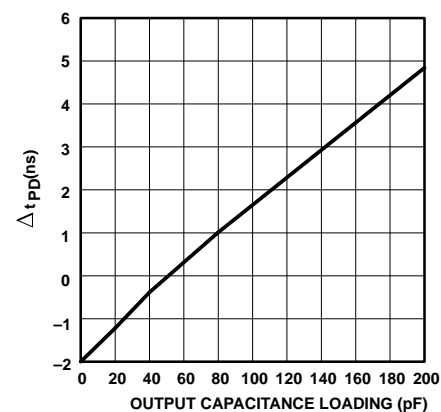

Figure 2. Δt_{PD} vs Output
- Refer to Figure 2 for Δt_{PD} vs output capacitance loading.